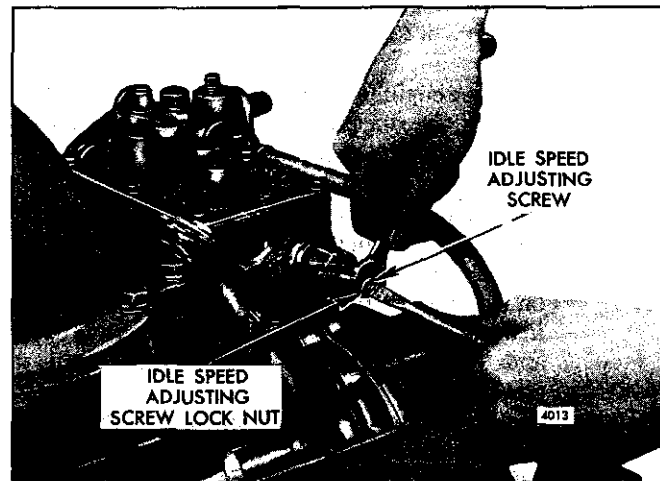

Fig. 9 - Adjusting Engine Idle Speed
1. With the engine running at normal operating temperature and with the buffer screw backed out to avoid contact with the differential lever, turn the idle speed adjusting screw (Fig. 9) until the engine is operating at approximately 15 rpm below the recommended idle speed. The recommended idle